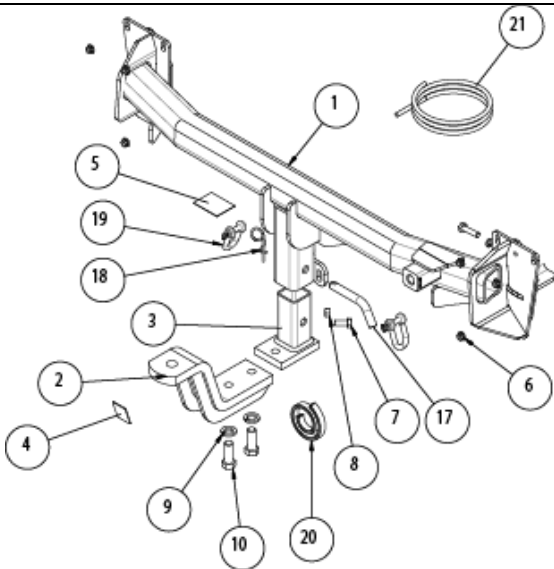

Figure 6 – Fit the loose components.
11. Fit the bumper trim (item 20) on the bumper cut.
14. Insert the saddle assembly (item 3) and secure it with the pull pin & R Clip (item 17 & 18).
15. Secure the lug assembly via M16 bolts and washers (item 9 & 10). Refer to Figure 6
16. Tighten the anti-rattle nut and bolt (item 7 & 8).
17. Put the D-shackles (item 19) into the chain connection.